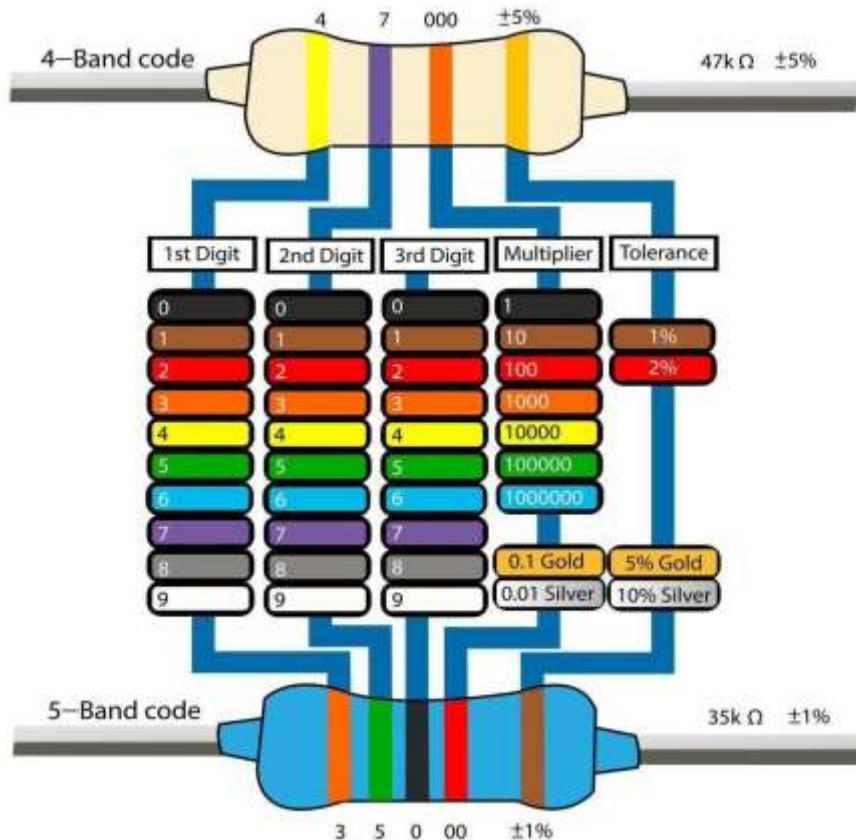

Fig. 3. Resistor color code table
- Color code chart for the resistors is shown in Fig. 3.